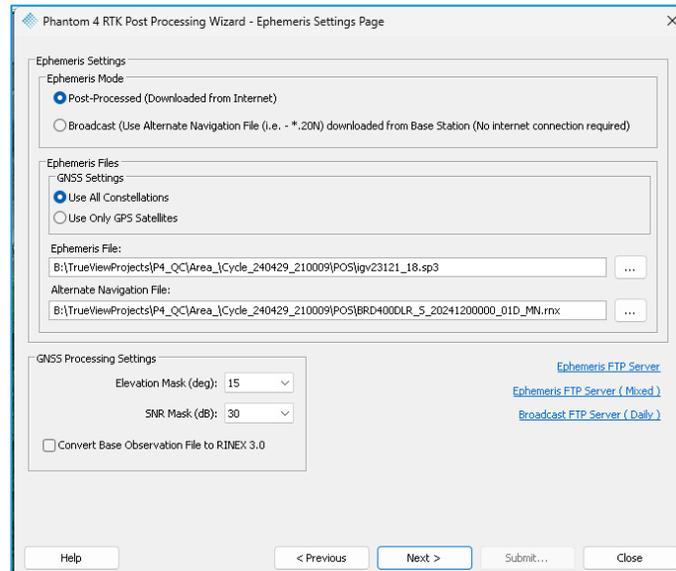

Figure 149 - Ephemeris Settings
- 6. The **Ephemeris Settings** page is used to configure the download of ephemeris or alternative navigation files, as well as configure the GNSS processing settings. LP360 Drone will attempt to download the necessary ephemeris files when transitioning to this page of the wizard, or when the GNSS Settings are changed. The bullets below correspond to Figure 149.